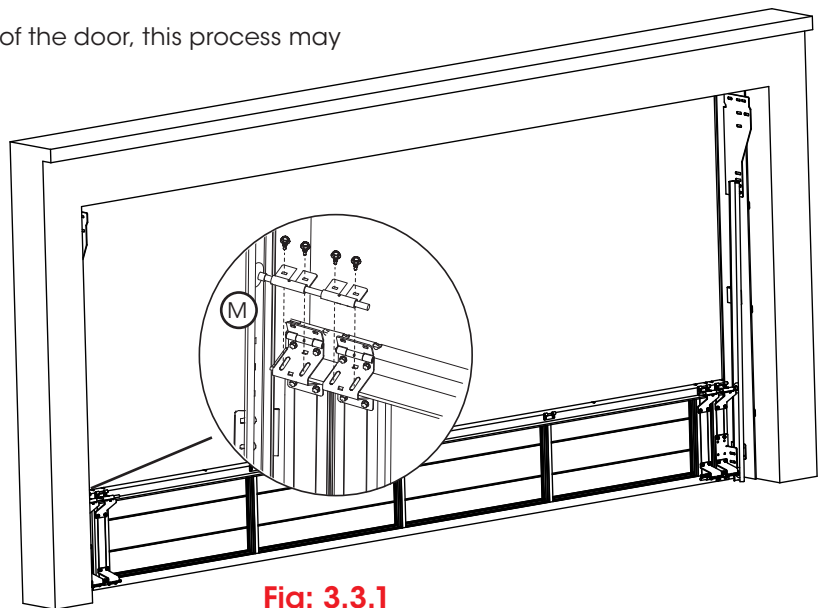

Fig: 3.3.1
- a) Carefully move the bottom panel into position between the tracks as per Fig 3.3.1.
- b) Slide in wheel axle (M) through 2 axle plates (that were removed in step 2.3f) and fit the wheel into the vertical track, before lowering down onto end hinges. (Fig 3.3.1) Secure axle plates with 4 tek screws as shown.